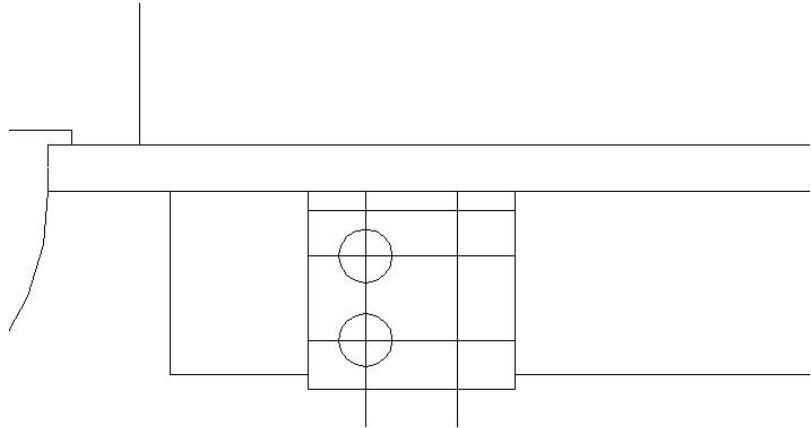

FIGURE 5.21: The first burner is copied.
4. Select the Intersection Osnap again, and pick the intersection of guidelines above the first circle (see Figure 5.21). Select the Intersection Osnap again, and pick one of the intersections on the right side. Then select the Intersection Osnap one more time, and pick the fourth intersection of guidelines. Press \downarrow to end the Copy command. The burners are in place. Now you need to change the size of the lower-left burner.